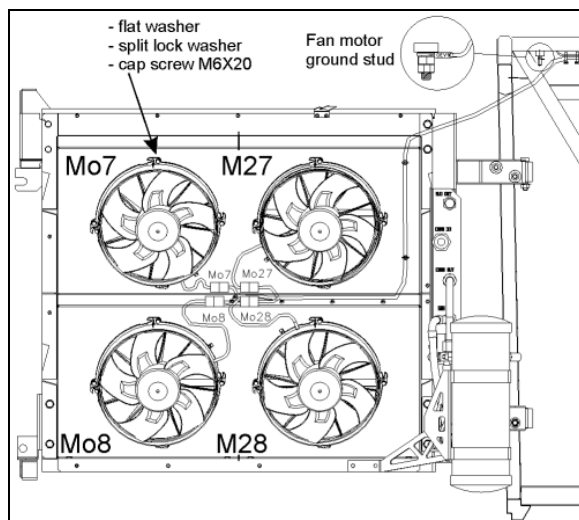

FIGURE 43: CONDENSER FANS
2. Unplug the fan harness connector (Figure 43).